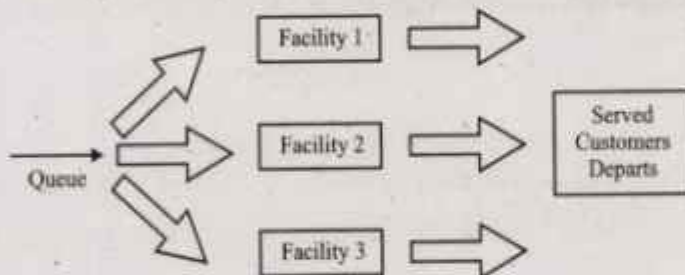

Fig. 4.7
- (c) *Multi-parallel facility with a single queue* : Here the service can be provided at a number of points to one queue. This happens when in a grocery store, there are 3 persons servicing the same queue or a service station having more than one facility of washing cars. This is shown in Fig. 4.7.